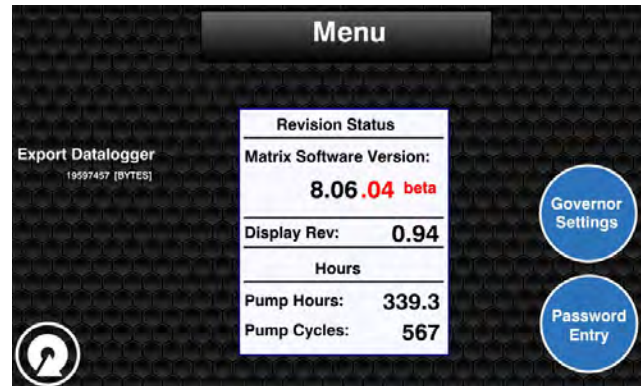

Figure 152. SAM Pump Controller System Options Menu Screen
- A. On SAM Pump Controller, touch and hold System Options icon until circle completes and Menu screen (Figure 152) appears.